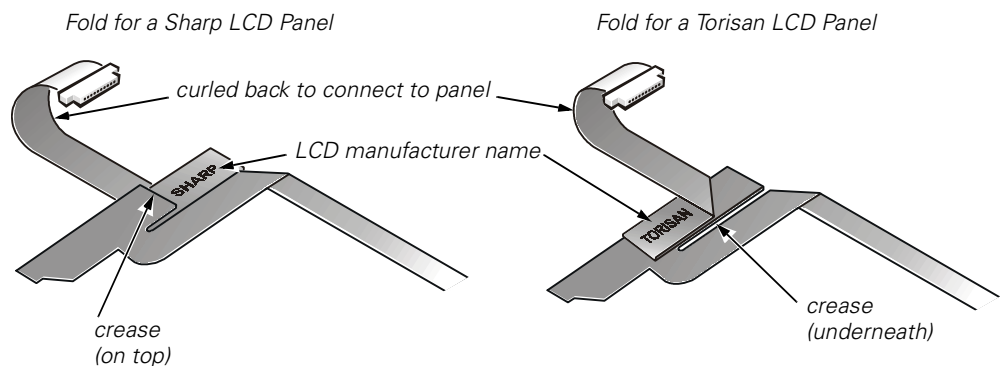

Figure 17. 12.1-Inch LCD Flex Cable
7. Fold the LCD flex cable at the crease as shown in Figure 17, so that the name of the LCD panel manufacturer faces up. The manufacturer is either Torisan (T-Sanyo) or Sharp.
The LCD flex cable can connect to either panel by making one fold to the cable. The words *Torisan* and *Sharp* are printed on the cable (see Figure 17). If you are installing a Torisan LCD panel, fold the cable at the crease so the word *Torisan* is facing up. If you are installing a Sharp LCD panel, fold the cable at the crease so the word *Sharp* is facing up.
NOTICE: The LCD flex cable must be folded correctly before the cable connector can be attached to the connector on the LCD panel (see Figure 17).
The flex cable must be curled back to connect to the LCD panel (see Figure 17).